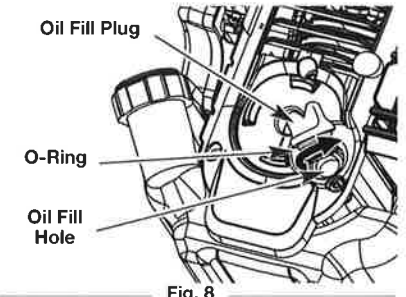

Fig. 8
- Remove the oil fill plug from the crankcase (Fig. 8).